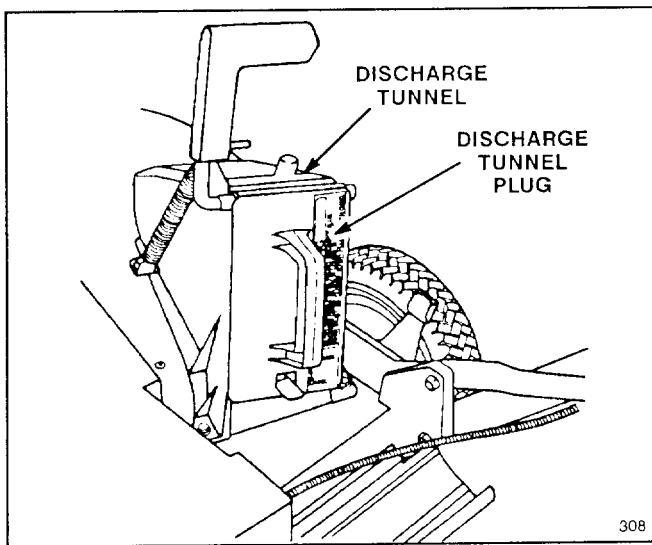

Figure 26
2. **Rear Bagging Kit, Model No. 59174** – Install discharge tunnel and rear mounting grass bag to convert the Recycler® mower to a rear bagging mower (Fig. 26). Includes discharge tunnel plug.